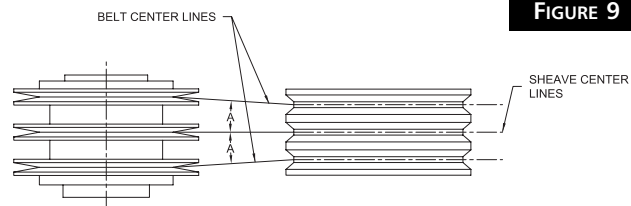

FIGURE 9
4. Be sure that both the driver and driven sheaves are in alignment and that the shafts are parallel. The centerline of the driver sheave must line up with the centerline of the driven sheave. Angle "A" cannot exceed 1/2° (see Figure 9).
5. Insert key (D) between the sheave and the shaft and tighten setscrew (A) in place using torque value from table.
6. Be sure that both the driver and driven sheaves are in alignment and that the shafts are parallel. The centerline of the driver sheave must line up with the centerline of the driven sheave. Angle "A" cannot exceed $1/2^\circ$ (See Figure 9).
7. Insert key (D) between the sheave and the shaft.